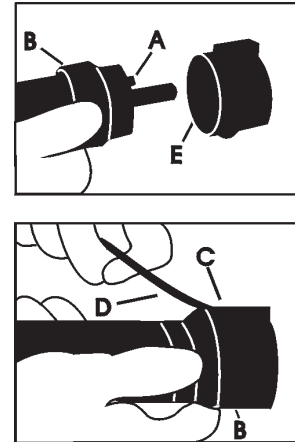

Fig. 5
4. Check that all the components of the torch are present and correctly fitted and connect the torch fitting to the connector on the generator as shown in figure 5.